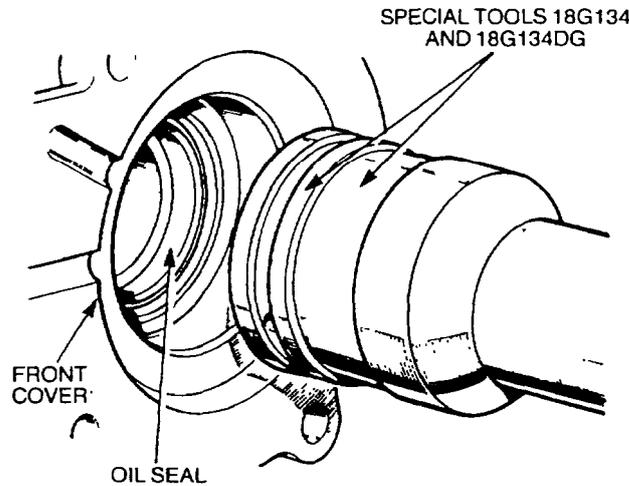

Figure 54 Front Cover Oil Seal Installation
- l. Using special tools 18G134 and 18G134DG, press in the input oil seal, plain face first into the front cover (Figure 54).